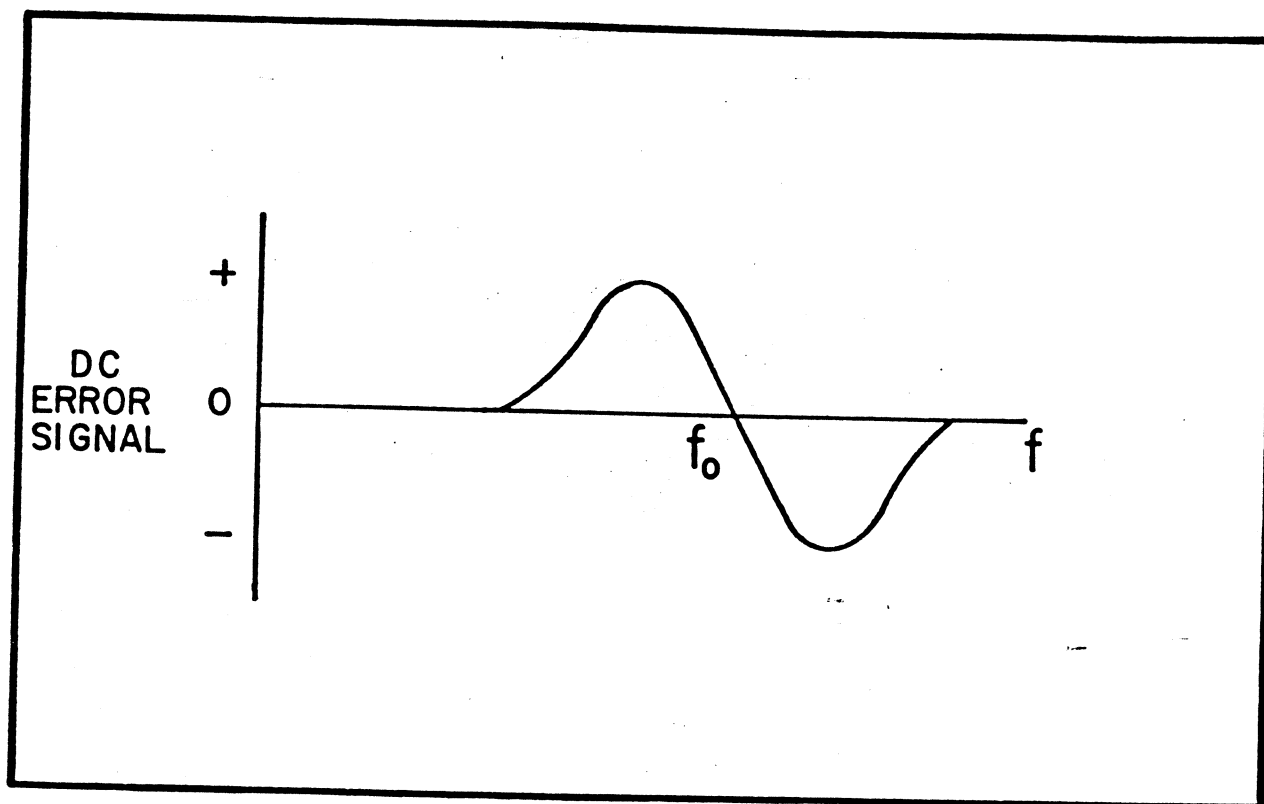

FIG. 4-5: Photodetector Current after Synchronous Demodulation.
After amplification, the detector current is synchronously demodulated using as a reference the audio signal used to produce the modulation on  $f$ . For  $f$  near  $f_0$  the DC error signal so obtained is proportional to the difference,  $f - f_0$ . The form of the error voltage is shown in Figure 4-5.
- 4.4.7.1 Lock Indicator. The manner in which the amplitude of the 155 cps and 310 cps signals vary when the excitation to the gas cell is near resonance (see Figures 4-5 and 4-6) allows a positive indication to be made of the condition of the AFC loop. Note that if the loop is in lock the amplitude of the 155 cps signal is practically zero, while the amplitude of the 310 cps signal is a maximum. The 155 cps signal from the 155 cps and 310 cps amplifier (Board 6) is rectified by CR811 and CR812; similarly the 310 cps signal is rectified in the network CR806, CR807; C804 and R805 are common to the two rectifiers. A positive voltage is obtained from rectification of the 155 cps signal and a negative voltage from the 310 cps signal. In addition the 310 cps rectifier is biased positively